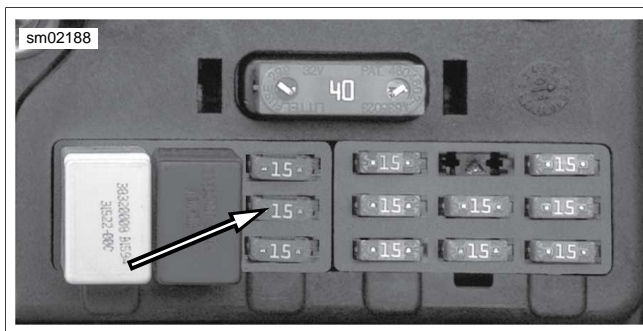

Figure 4-56. Fuel Pump Fuse
See Figure 4-56. The fuel pump fuse is located in the fuse block under the left side cover. The fuel pump can be turned on with Digital Technician or by applying battery voltage to the fuel pump fuse.
- a. See Figure 4-56. Remove the fuel pump fuse from fuse block.
7. See Figure 4-56. Install fuel pump fuse.